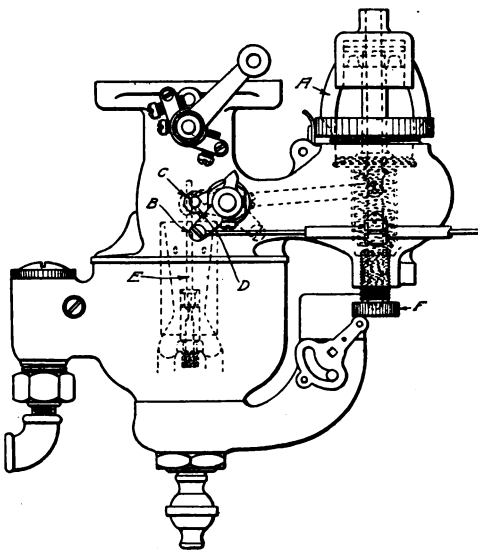

Fig. 111. Schebler Carburetor, Model "R"
*Adjustment of Model "R".* Model "R", as Fig. 111. shows, is very similar, the most noticeable change being the vertical setting of the needle valve (here marked *E*). Its movement is adjusted by an internal lever connected to the air-valve cap *A*. The air inlet group has been raised to correspond with the longer Venturi, and its main opening is on top, with the adjusting screw *F* on the bottom. To adjust this model, see that lever *B* is attached to the steering-column control or dash control in such a way that the boss *D* is against the stop *C* when the lever on the steering column or dash registers lean, or air. This is the proper running position. To adjust,